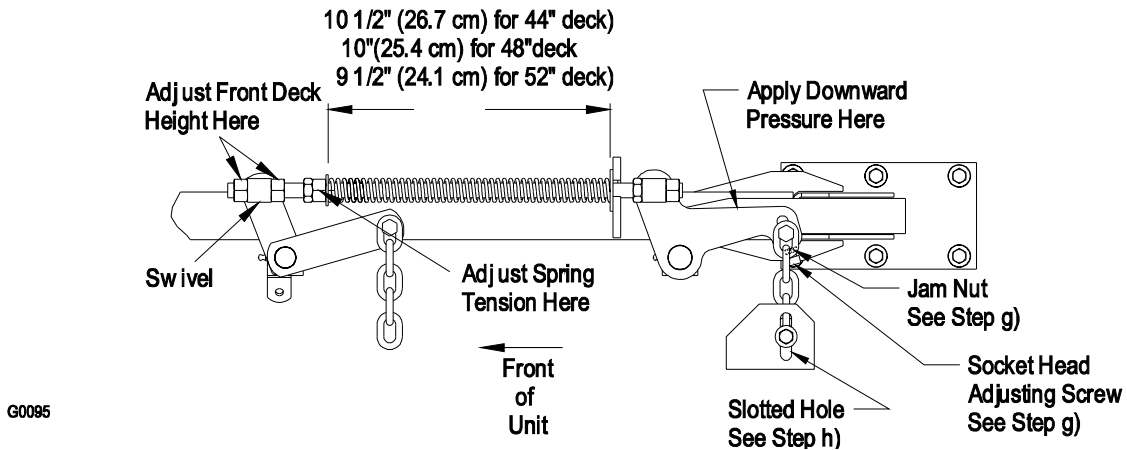

FIGURE 11
- Raise the deck to the 4.5" (11.4 cm) height position and take as much force as possible off of the two large deck lift springs by loosening the nuts at the front of each spring. See Figure 11.
- For units **with** a socket head adjusting screw and slotted hole in rear deck lift arm:* Loosen the two (2) top chain bolts in slots in the rear deck lift arms. Loosen jam nuts and back off the socket head adjusting screws on the bottom of the arms until the chains are just loose when pressure is applied to force rear deck support arms down. See figure 11. Continue to press down on rear deck support arms and turn the socket head adjusting screws in until slack is taken out of each chain. Tighten the jam nuts. Tighten the chain bolts in the deck lift arms making sure they do not move while tightening.
- For units **without** a socket head adjusting screw and slotted hole in rear deck lift arm:* Loosen the two (2) bottom chain bolts in slots at the rear of the cutting deck. Press down on the rear deck support arm (as shown in Figure 11). While holding the rear deck support arm down, take the slack out of the rear chains and tighten hardware at the bottom of the rear chains.
- Loosen four (4) nuts which secure front swivels (two per side), until front chains are loose and front of deck is supported by the 1-1/8" (2.9 cm) block. Do not loosen front chain hardware.
- l) Raise deck lift lever to the 4.5" (11.4 cm) cutting height position (also transport position, See Figure 9. Adjust spring compression until proper distance is obtained between the two washers (See Figure 11) by turning the nut at the front of each spring. Lock nuts in position with jam nuts.